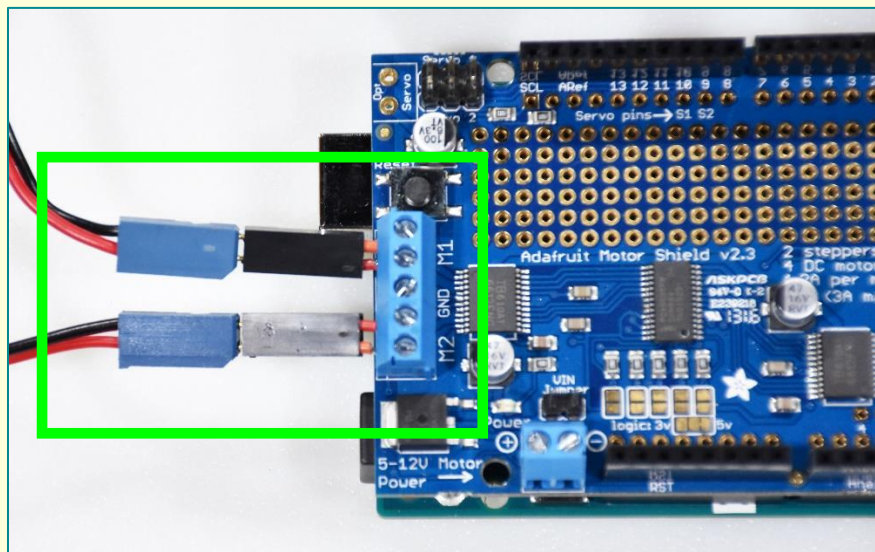

Figure 4-3. Connecting the DC motors to the Adafruit Motor/Stepper/Servo shield.
1. Connect one DC motor to “M1” and one DC motor to “M2”, as shown in Figure 4-3. From now on, we will refer to those two motors as *Motor 1* and *Motor2*, respectively.